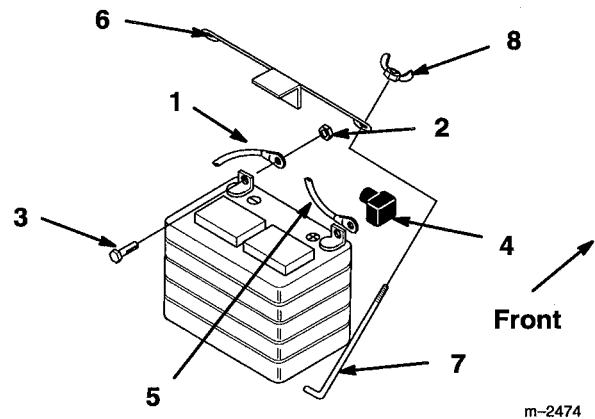

Figure 38
3. Disconnect the negative (black) ground cable from the battery post (Fig. 38).
4. Lift the rubber cover up on the positive cable. Disconnect the positive cable (red cover) from the battery post (Fig. 38).
5. Remove the battery hold down rods (Fig. 38). Lift battery from tractor.
6. Install the battery into the chassis (Fig. 38).
7. Secure battery in chassis with hold down rods, washers and wing nuts (Fig. 38).
8. Using the bolt and locknut, connect the positive (red cover) cable to the positive (+) battery post (Fig. 38). Slide the rubber cover over the battery post.
9. Using the bolt and locknut, connect the negative (black) cable to the negative (-) battery post (Fig. 38).